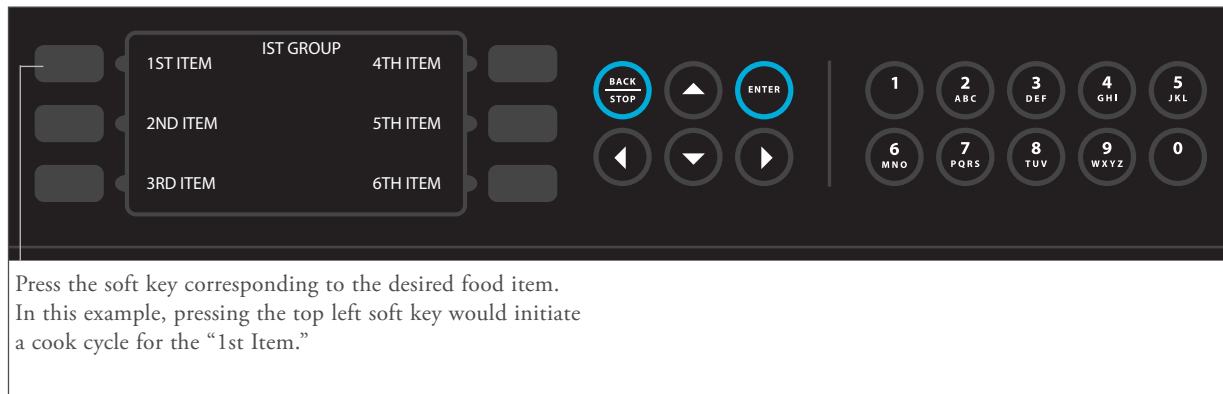

FIGURE 10: Selecting a Food Item
5. Select the item to cook by pressing the corresponding soft key (Figure 10).